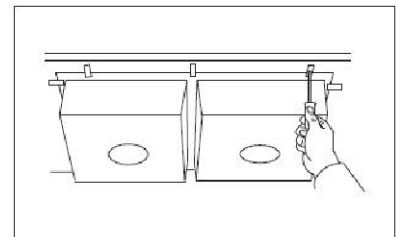

**Figure 3**
5. Locate the drill holes on the underside of the countertop, approximately 1" from edge of the sink to be installed. Holes should be evenly spaced approximately 6" to 8" apart starting from every corner as shown in Figure 3. It is recommended to install a faucet at this point before installing the sink.